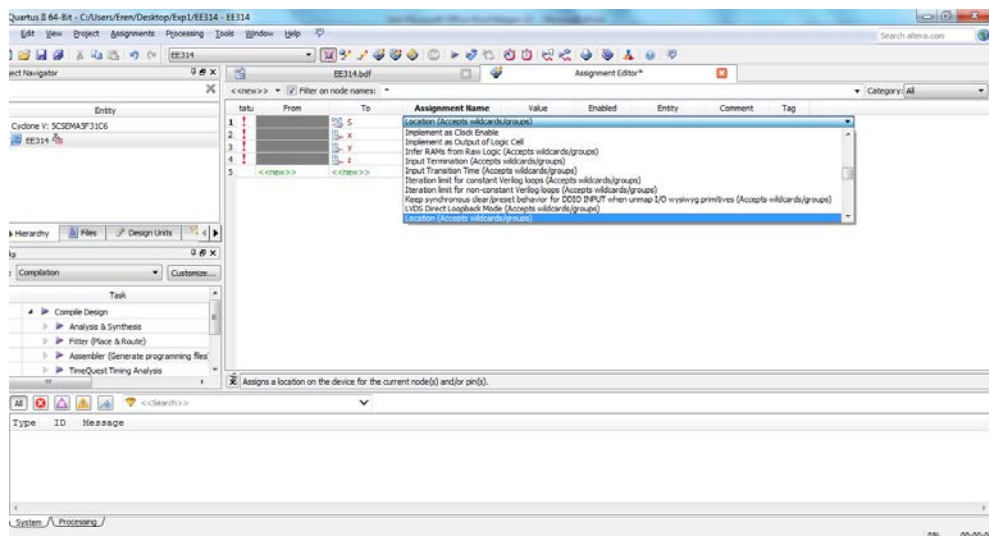

Fig. 11: Assignment Name selection window
- 4) Now open the drop down menu under **Assignment Name** column and select **Location(Accepts wildcards/group)** as shown in Figure 11.